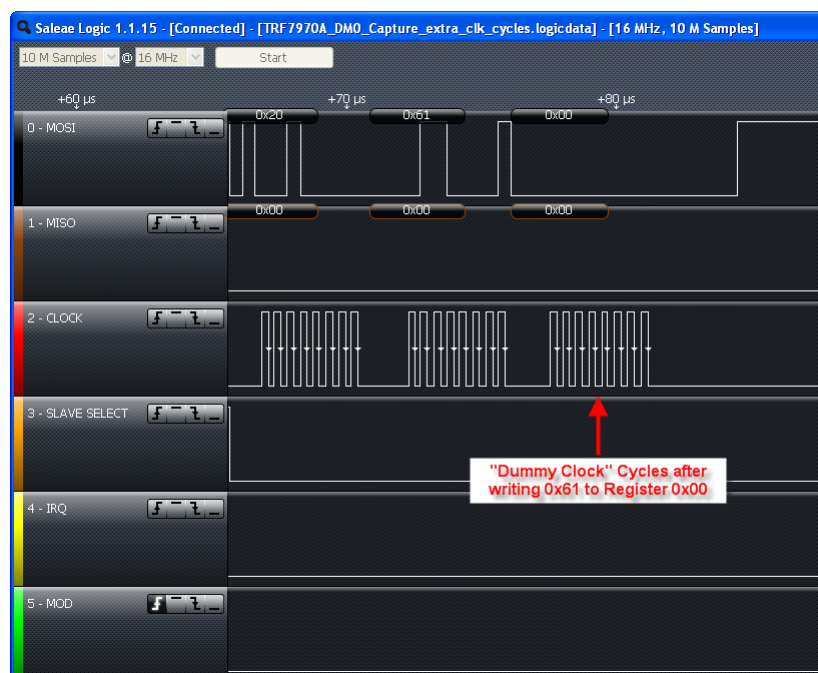

Figure 6-28. Entering Direct Mode 0
4. Send extra eight clock cycles (see Figure 6-28, this step is TRF7970A specific)